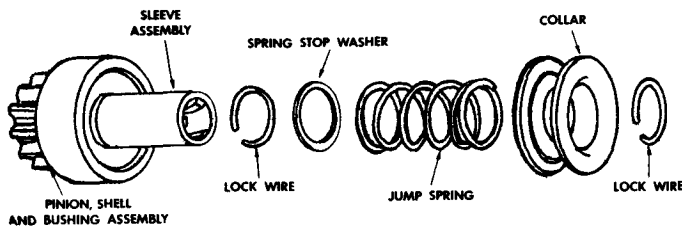

Figure 12—Disassembled view of early type intermediate duty sprag clutch drive assembly.
An early type clutch and late type clutch are shown in Figures 12 and 13.
2. Remove the spring stop washer and second lock wire from the early type clutch (Fig. 12).